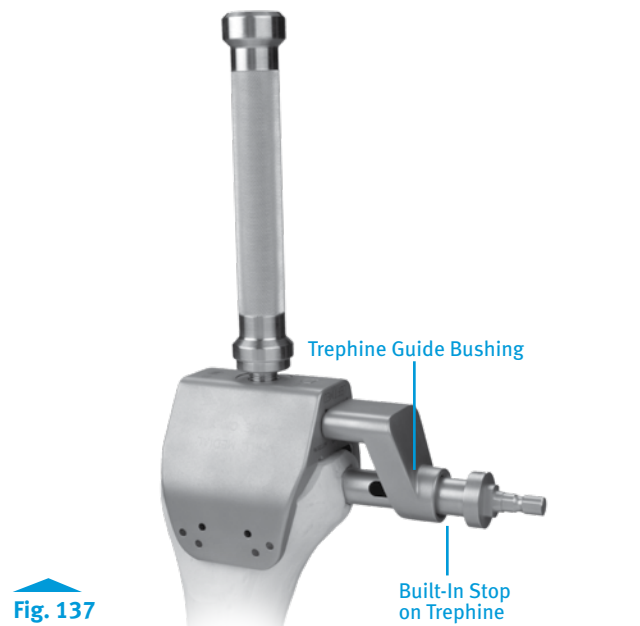

Fig. 137
- Attach the Trepine to a drill/driver, and drill an access hole through the guide bushing and into the medial side of the femur (Fig. 137).